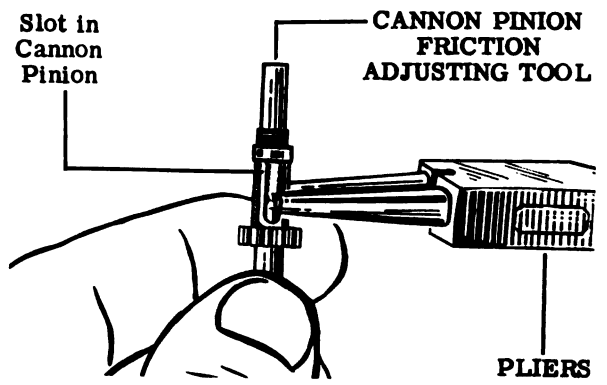

Figure 108
23. Adjust the friction of the cannon pinion by crushing it with pliers over the special friction adjusting tool (Tool No. 18A) as shown in Fig. 108. Push on the cannon pinion with the special pusher, Tool No. 19A.